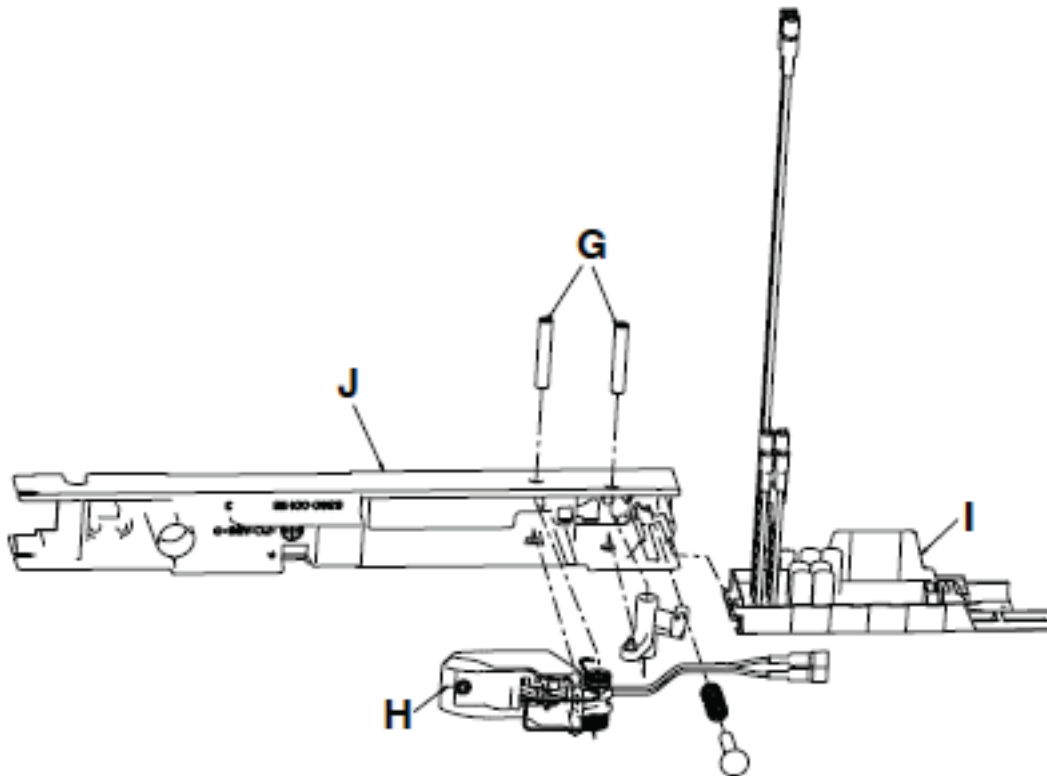

Figure 42 – Unplug coil wires from the inductive primary board
12. Remove the anchor pivot pin (G) that holds the anchor coil assembly (H) to the anchor housing (J) (Figure 42).
13. Unplug the coil wires from the inductive primary board (I) (Figure 42). Discard the anchor coil assembly.